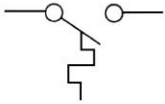

Figure 6-8 Symbol for question 13.
13. Figure 6-8 represents the symbol for a 13. _____